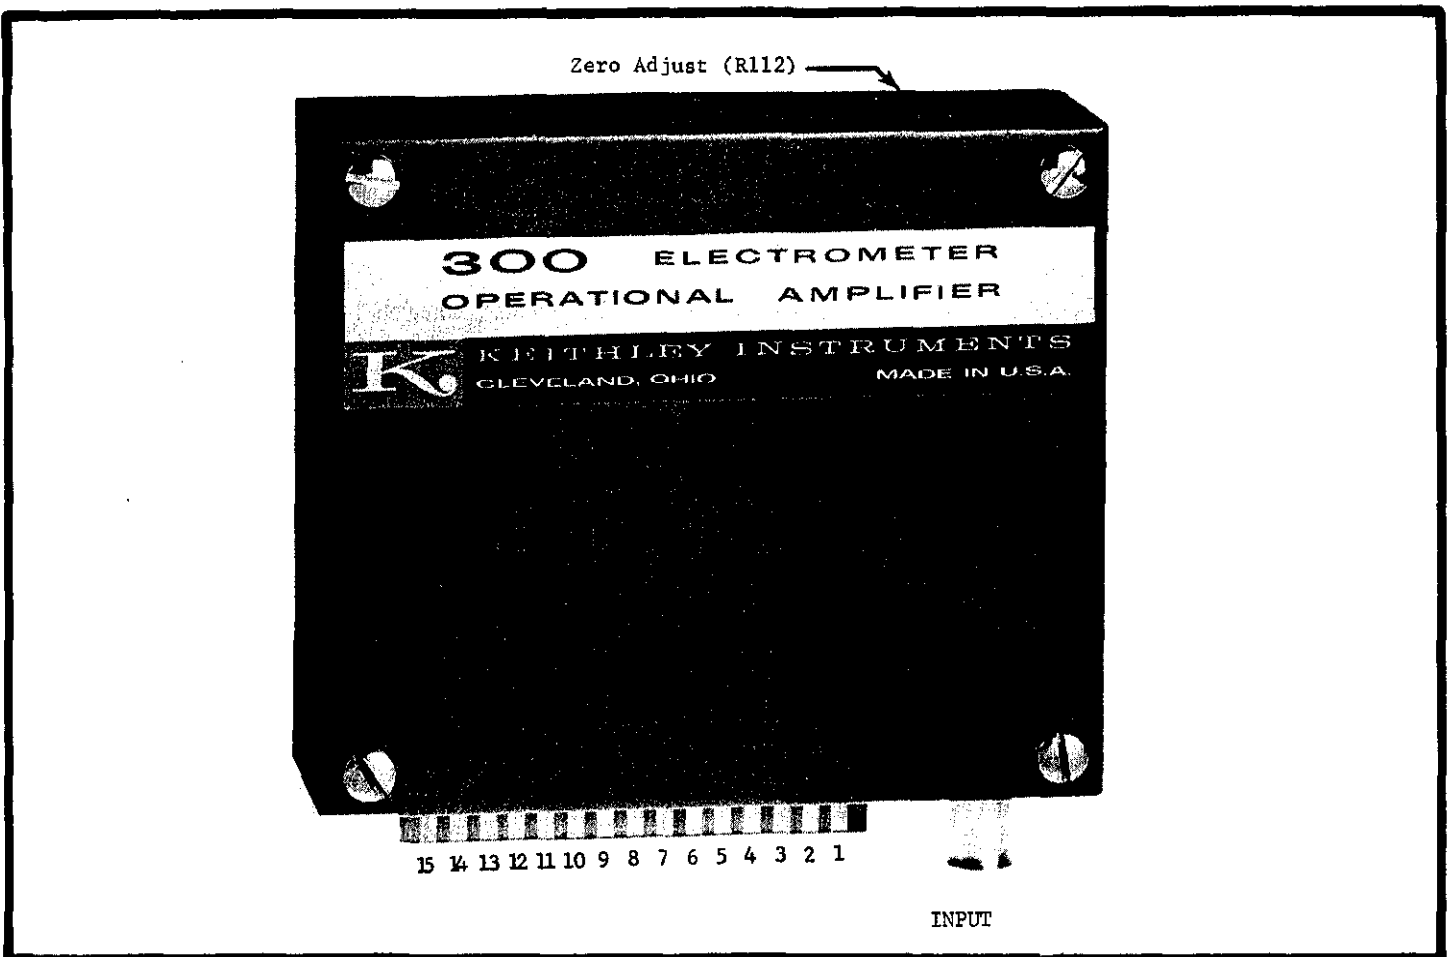

FIGURE 2. Model 300 Terminal Designations. Refer to Table 1 for explanation of the terminals.
2-1. **TERMINALS.** The Model 300 input connector is a Teflon-insulated coaxial receptacle. The 15-terminal card-edge is used for all other connections. The mating connector for the 15-terminal card-edge is keyed to prevent improper insertion. Refer to Figure 2 and Table 1 for terminal identification and explanation.
d. The terminals of the mating connectors correspond exactly to the terminals of the Model 300 shown in Figure 2. CS-179 is the mating connector for the INPUT Receptacle, and CS-175-15 is the mating connector for the card-edge connector.
a. The instantaneous value of the supply voltages must be between 16 and 25 volts. For example, even a power supply whose value varies from 16 to 25 volts can be used. The only exception is that a power supply with as low as a 15-volt output regulated to 0.1% can be used. Connect the positive supply to the +16V to +25V Terminal (pin 10, Figure 2). Connect the negative supply to the -16V to -25V Terminal (pin 6, Figure 2).
e. If it is more convenient, the ALT. INPUT Terminal (pin 1, Figure 2) can be used for larger input signals. Note that input leakage current may increase and shielding will become less effective. However, the input tape will still remain guarded. To change from the INPUT Receptacle to the card-edge ALT. INPUT:
a. The output voltage is through the OUTPUT Terminal (pin 8, Figure 2). Almost any means of looking at the output voltage can be employed as long as the load on the output is not less than 1000 ohms.
d. Adjusting the Zero Adjust Potentiometer, R112 (Figure 7), sets the output to zero voltage for no input signal. There is a hole in the cover (Figure 2) enabling this adjustment to be made without removing the cover. Refer to paragraph 2-14 for other adjustments.